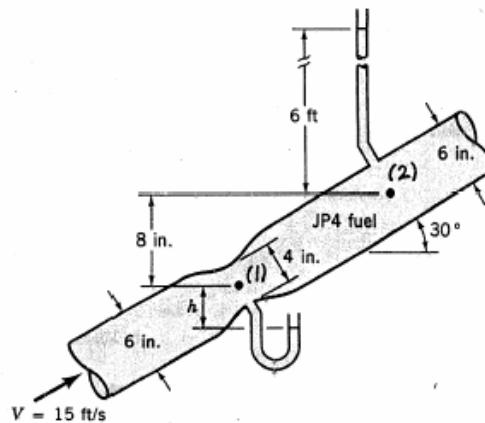

FIGURE P3.68
3.68 JP-4 fuel ($SG = 0.77$) flows through the Venturi meter shown in Fig. P3.68 with a velocity of 15 ft/s in the 6-in. pipe. If viscous effects are negligible, determine the elevation, h , of the fuel in the open tube connected to the throat of the Venturi meter.